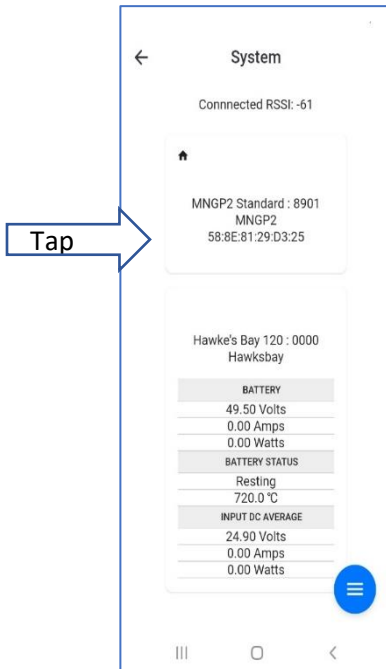

Figure 19
6. The FW app will connect to the Hawke's Bay, then the app will appear as shown in **Figure 19**.